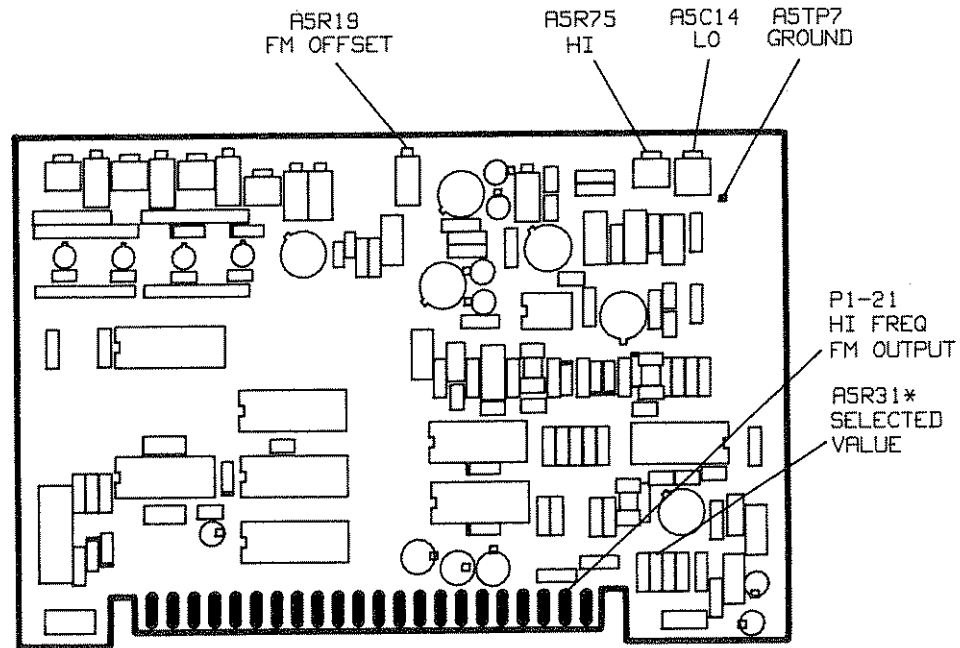

Figure 5-31. FM Driver Adjustment Location
3. Turn the HP 8350 AC power on and connect DVM HI to A5 board connector pin 21 and DVM LO to A5TP7 (Ground). Adjust A5R19 (FM OFFSET) for $0.00 \pm 0.0001V$. Refer to Figure 5-31.
- Sweep the function generator frequency from 100 Hz to 100 kHz. Select resistor A5R31 (See Figure 5-31) so the amplitude at 100 Hz and at 100 kHz are the same ± 0.2 divisions on the screen.